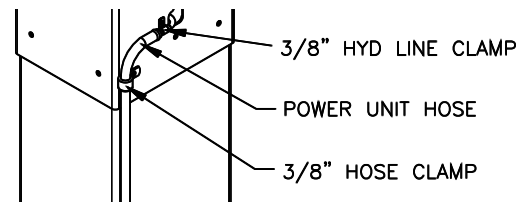

**Fig 8a – Idler Side Column Ext. Hose Routing**
- 22) Uncoil Idler side hose and route through the Idler Side column extension as shown in **Fig 8a.** taking care to avoid the synchronizing cables and hydraulic cylinder path. Remove slack and tighten all 3 clamps. Route hose across overhead avoiding the synchronizing cables and down through the Power Side column extension as seen in **Fig 8b.** Do Not Tighten Clamps at this time.